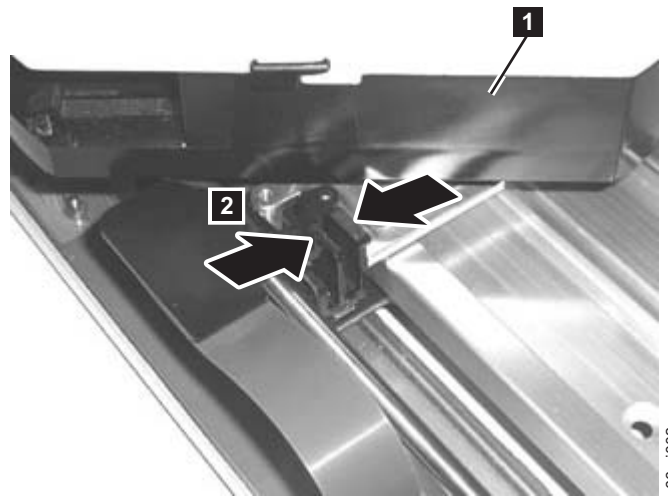

Figure 8-42. Flat cable connector
5. Facing the library, rotate the Picker Assembly until the front of the Picker Assembly is oriented approximately 45 degrees right of center, as seen from the top of the library, to access the flat cable connector (**1** in Figure 8-42).
6. Pinch the top of the connector (**2** in Figure 8-42) and lift up to disconnect it.
3. Facing the library, rotate the Picker until the front of the Picker Assembly is oriented approximately 45 degrees right of center, as seen from the top of the library, to access the flat cable connector (**1** in Figure 8-42 on page 8-46).
4. Pinch the top of the connector (**2** in Figure 8-42 on page 8-46) and connect it.
4. Rotate the Picker Assembly with the grippers pointing toward 11 o’clock (**1** in Figure 8-42 on page 8-46) to expose the flat cable connector.
5. Pinch the top of the connector (**2** in Figure 8-42 on page 8-46) and lift up to disconnect it.
4. Rotate the Picker Assembly with the grippers pointing toward 11 o'clock (**1** in Figure 8-42 on page 8-46) to expose the flat cable connector.
5. Plug in the connector (**2** in Figure 8-42 on page 8-46).